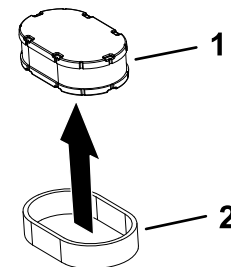

Figure 42
6. Separate the foam and paper elements (Figure 42).